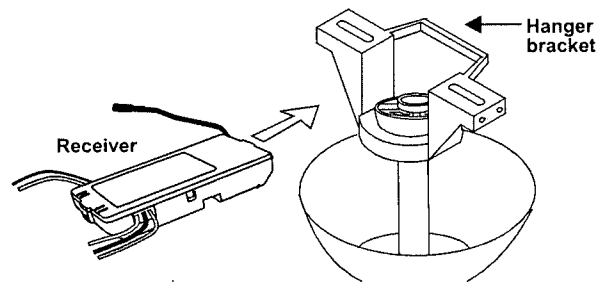

Figure 11
1. Insert Receiver into Hanger Bracket with the flat side of the Receiver facing the ceiling. (Fig. 11)